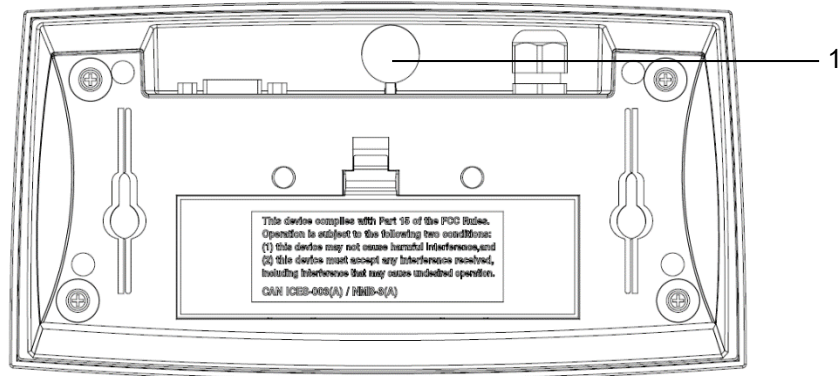

Figure 5-2 Courier 7000 Paper Sealing
- Paper sealing: affix the sealing paper on the countersunk screw shown as Figure 5-2.